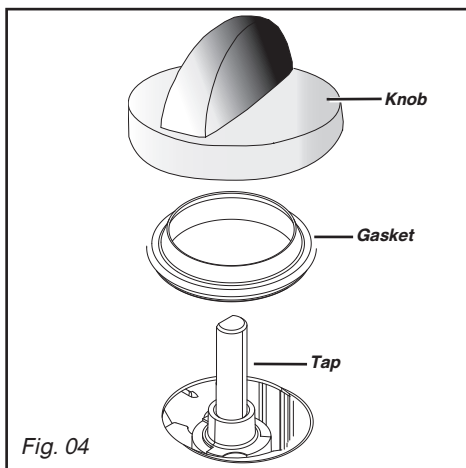

Fig. 04
- **Adjust the hob connections:** they are located underneath the knobs (Fig. 04).